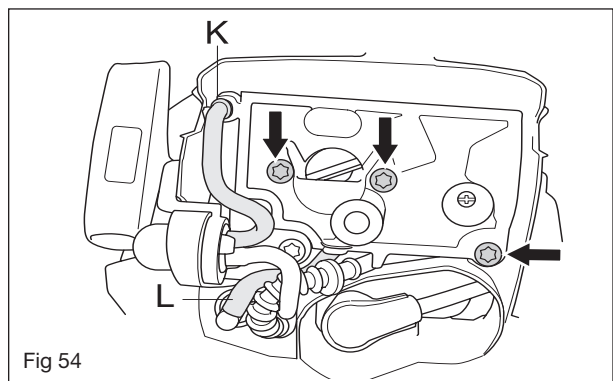

Fig 54
Fit the filter holder over the carburettor and screw the screws back in place. Secure the suction hose (K) and the bleeding hose (L) to their attachments in the filter holder. See figure 54.